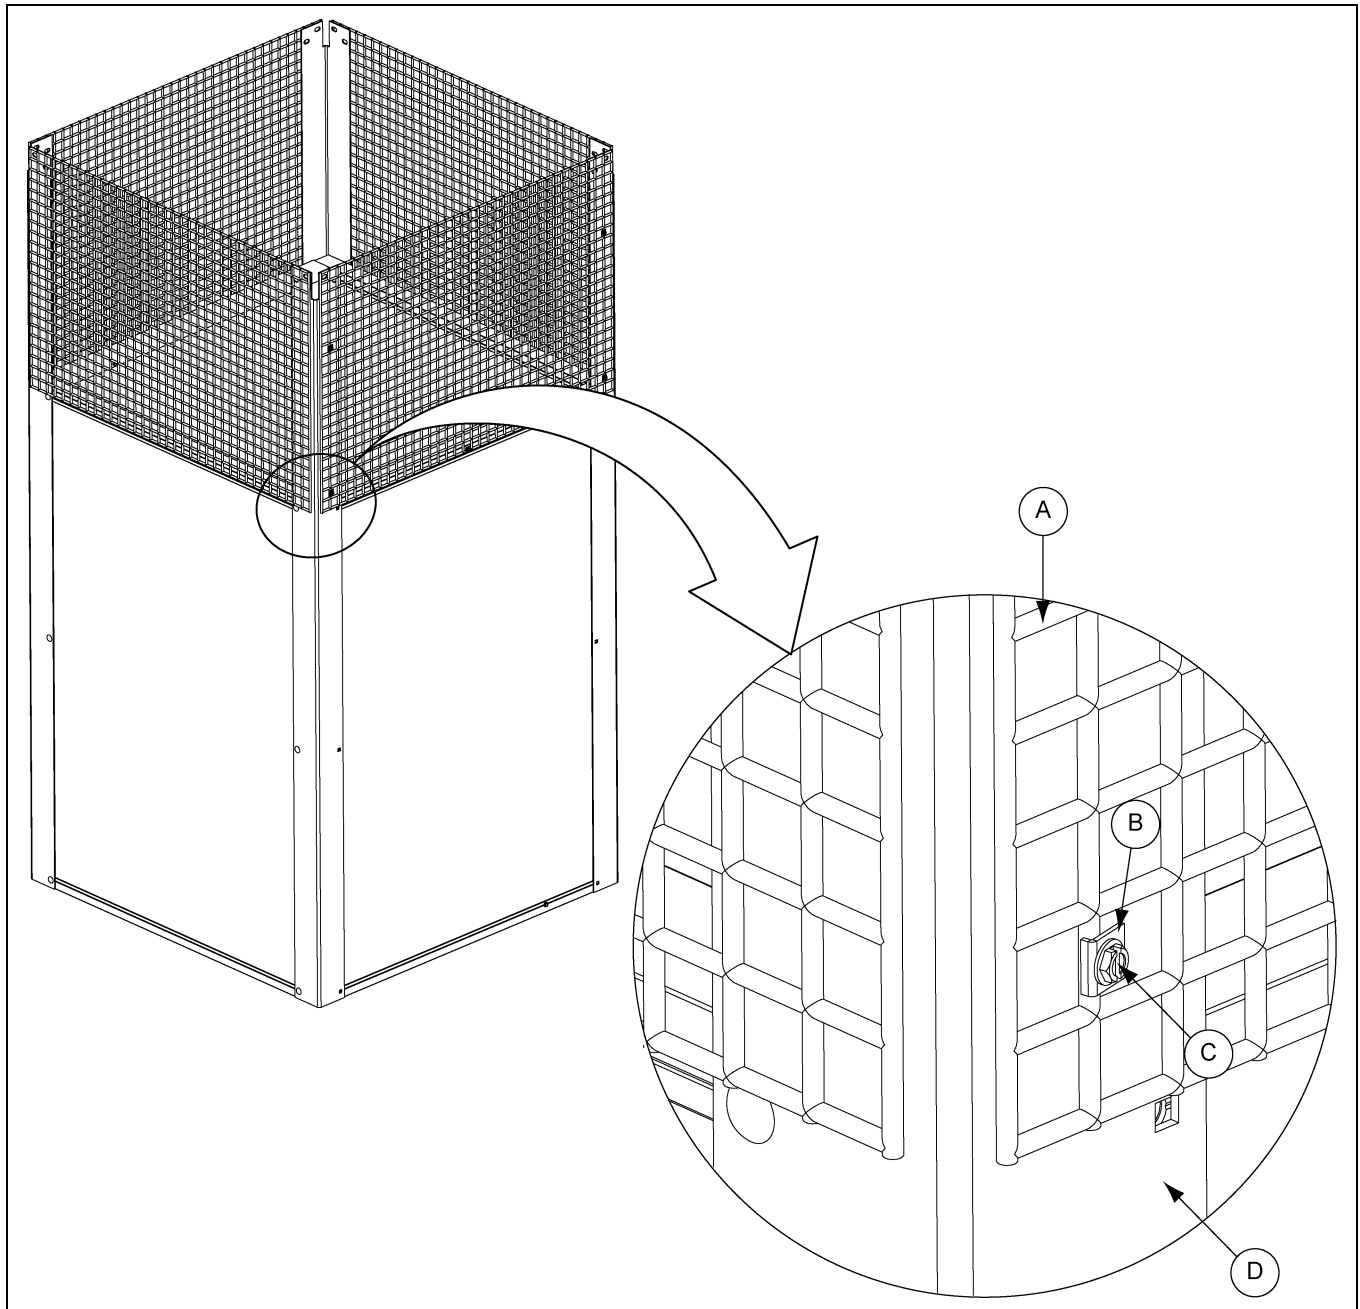

Figure 2D
1. Install the bird screen (A) as shown in Figure 2D. Use four (4) retaining lids (B) and self-drilling screws (C) in the corners to attach the screen to the aluminum channels (D).